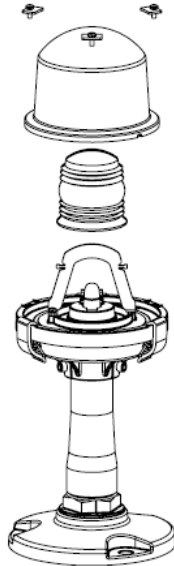

Figure 5-2
- Loosen the steel wire fixing the inner cover to take out the inner cover (see Figure 5-2).